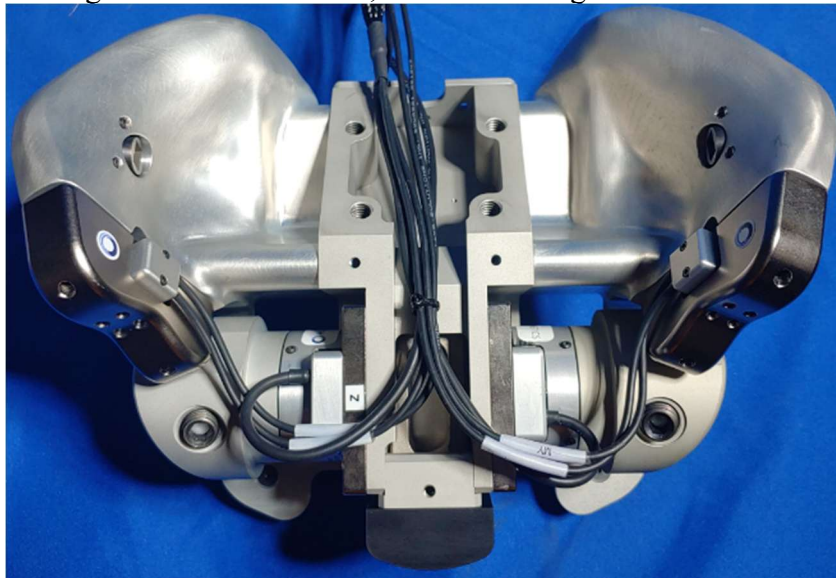
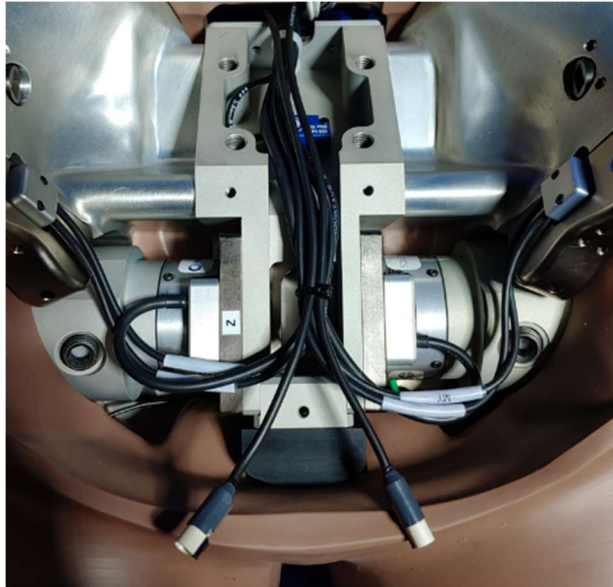

Figure 8-43. Route and strain relieve the instrumentation wires through the center pelvis channel
Figure 8-44. Route the abdomen pressure sensor wires through the center pelvic channel
- 8.3.14 Route and strain relieve the instrumentation wires through the center pelvis channel (Figure 8-43). At this stage, route the abdomen pressure sensor wires through the channel as well, as shown in Figure 8-44.